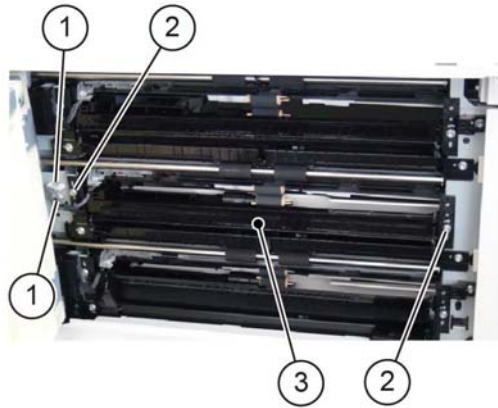

Figure 2 Tray 3 feeder assembly removal
5. Remove the tray 3 feeder assembly, Figure 2:
- a. Disconnect two connectors (1).
- b. Remove two screws (2).
- c. Remove the tray 3 feeder assembly (3).